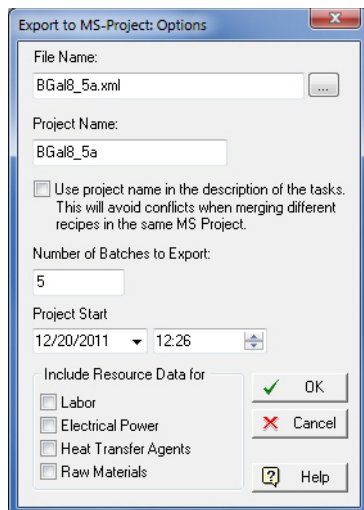

Figure 14.2: The 'Export to MS-Project®' dialog.
**XML File** from the menu or by selecting **Export to MS-Project® XML File** from the chart's command (context) menu. The following dialog (Figure 14.2) will appear: